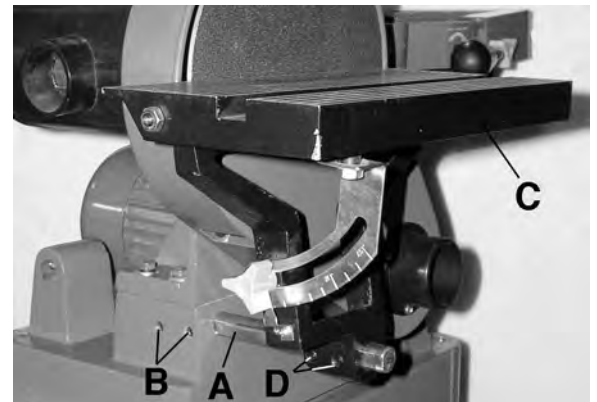

Figure 11
1. Locate the support shaft (A) Fig.11 and insert it into the support shaft opening. Tighten the 2 set screws (B) against the flats of the support shaft with a 5mm hex. key.
2. Slide the tilting table assembly (C) onto the support shaft (A) until the table is maximum 1/16" away from the sanding disc.
3. Tighten the 4 set screws (D) on both sides of the tilting table bracket against the flats of the support shaft with a 6mm hex. key.